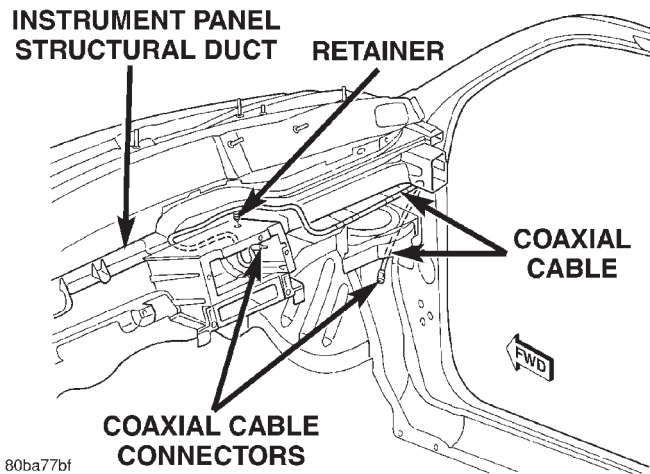

Fig. 15 Instrument Panel Antenna Cable Routing
(8) Disengage the antenna cable retainer from the mounting hole in the top of the radio mount on the instrument panel structural duct (Fig. 15).